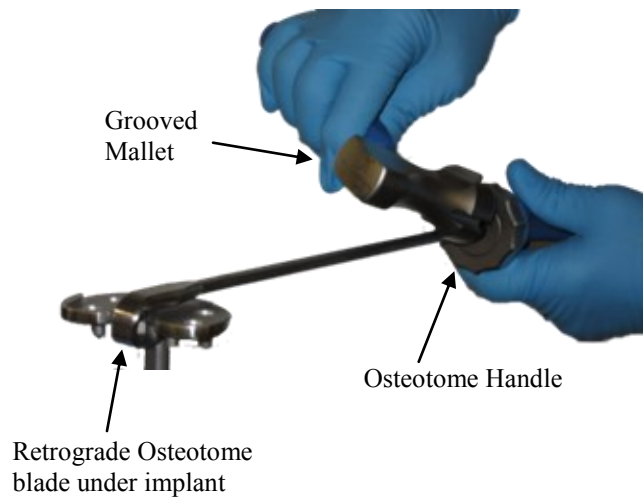

Figure 7
- The Osteotome should be used with the Grooved Mallet (SMT001) and used in either retrograde or antegrade directions, depending on the Osteotome tip style and the location of the bone being separated from the implant. See Figure 7 and 8.